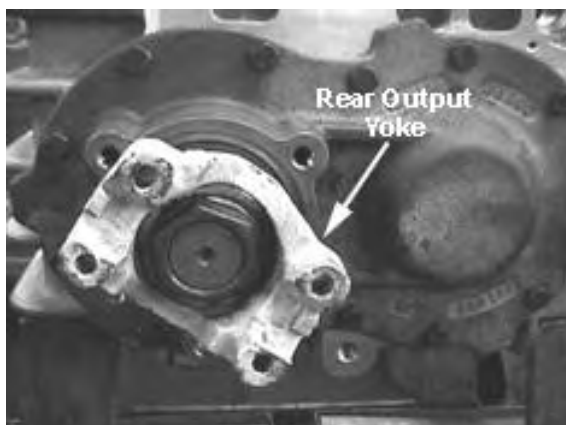

Fig. 73
29. Install the rear output yoke onto the shaft and torque to spec. See Fig. 73.